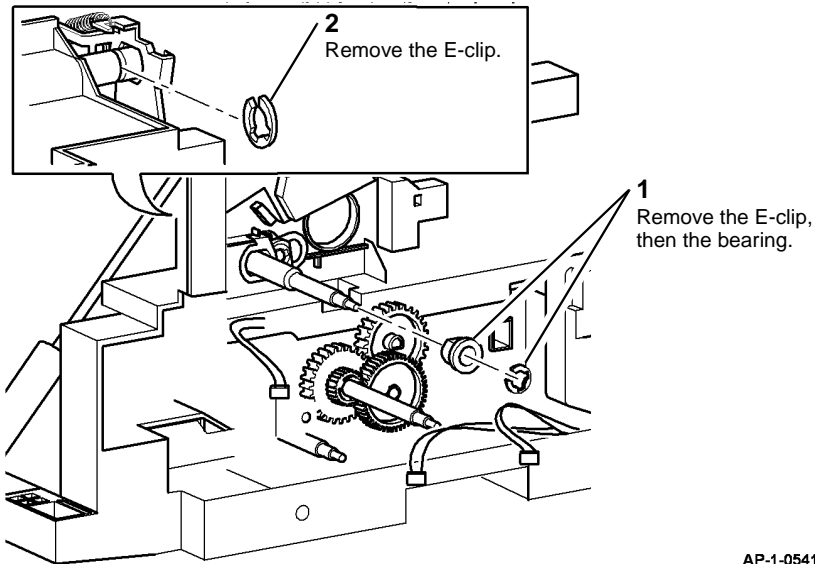

Figure 2 Preparation
10. Prepare the rear of the registration roll, Figure 2.